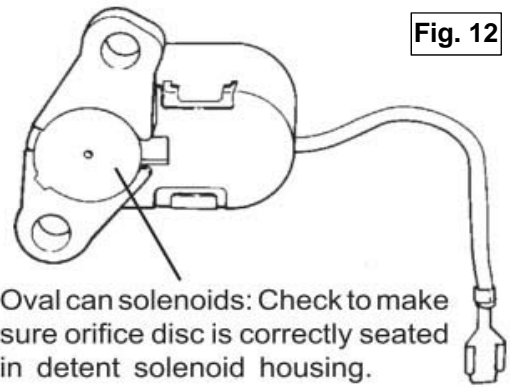

Fig. 12
11. Carefully examine Detent Solenoid. Oval can solenoid: Make sure orifice disc is present and properly seated in the casting (See Fig 12). If the disc is missing the transmission will be in passing gear all the time. Install solenoid into position along with the new metal gasket supplied with kit. Install the two (2) 1/4-20 bolts FINGER TIGHT. Remove the pan bolt you used to hold the plate and gasket in place.